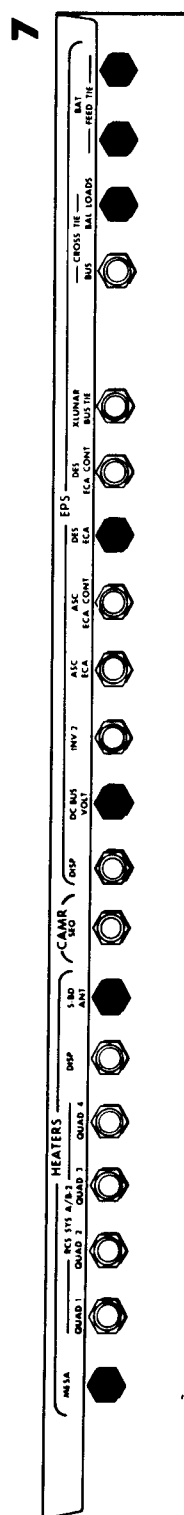

Figure 4-2. Prelaunch Closeout Check (Panel 16)
<p>4.1 PRELAUNCH CLOSEOUT CHECK (cont)</p> <p>SYS A ASC FEED 2 sw - center SYS A ASC FUEL tb - bp SYS A ASC OXID tb - bp SYS B ASC FEED 1 sw - center SYS B ASC FEED 2 sw - center SYS B ASC FUEL tb - bp SYS B ASC OXID tb - bp SYS A QUAD 1, 4, 2, & 3 sw - ENABLE; tb - gray SYS B QUAD 1, 4, 2, & 3 sw - ENABLE; tb - gray CRSFD sw - center; tb - bp SYS A MAIN SOV sw - center; tb - gray SYS B MAIN SOV sw - center; tb - gray TEMP/PRESS MON sel - He ACA PROP sw - ENABLE MASTER ALARM pb/lt - not depressed RATE/ERR MON sw - LDG RDR/CMPTTR ATTITUDE MON sw - ACS GLYCOL sel - PUMP 2 SUIT FAN sel - 1 02/H2O QTY MON sel - ASC 2</p> <p>TTCA 13. THROTTLE/JETS cont (LMP) - JETS Throttle friction cont (LMP) - as desired</p> <p>6 14. Eng STOP pb/lt - reset ACS STATUS sw - OFF</p> <p>ACA 15. PTT pb (LMP) - not depressed</p> <p>16 16. All cb's - open, except: CB LTG: FLOOD - close CB S/C: ASA - close CB HTR: MESA - close S BD ANT - close CB EPS: DC BUS VOLT - close DES ECA - close CROSS TIE BAL LOADS - close BAT FEED TIE (2) - close Verify cb status per Prelaunch Closeout Check.</p>	<p>ASC FEED 2 valves (secondary) - closed</p> <p>ASC FEED 1 valves (primary) - open ASC FEED 2 valves (secondary) - closed</p> <p>CRSFD valves - closed SYS A MAIN SOV - open SYS B MAIN SOV - open</p> <p>See figure 4-2.</p>